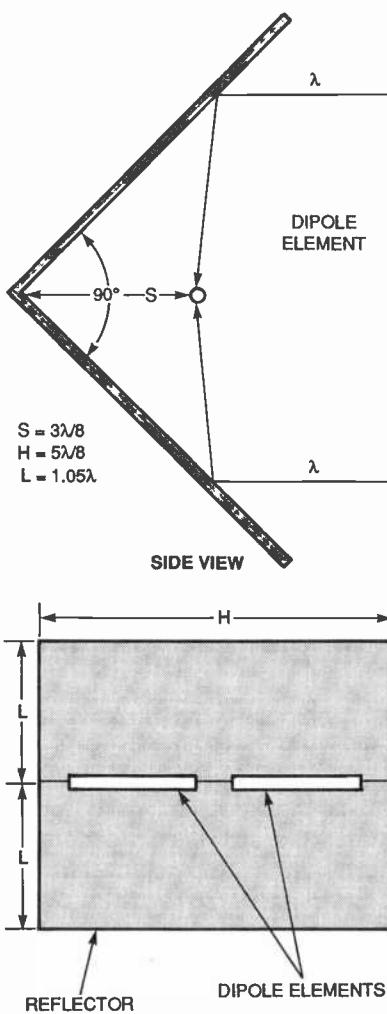

Fig. 11. Here are the front and side views for a corner reflector antenna.
**Corner Reflector Antennas.** The corner reflector, popular for UHF television reception, also could be designed and built for scanner frequencies. Figure 11 shows the basic corner reflector. It consists of an angled reflector with an angle between 60 and 90 degrees (the 90° version is shown here). When the angle is 90 degrees, the antenna provides about 10 dB of gain, and has a feedpoint impedance of around 72 ohms (which makes a good match to 75-ohm coaxial cable).